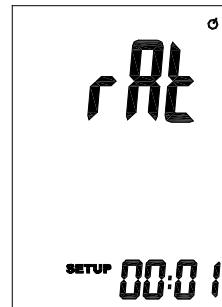

Fig. 2
2. Use the **▲/T1-T2** and **Hold/▼** buttons to scroll to the **rate** setting option screen (see Fig. 2).
3. Press **Rec/Enter** button to access the "00:01" (minute, second) value shown in the tertiary display (see Fig. 2).